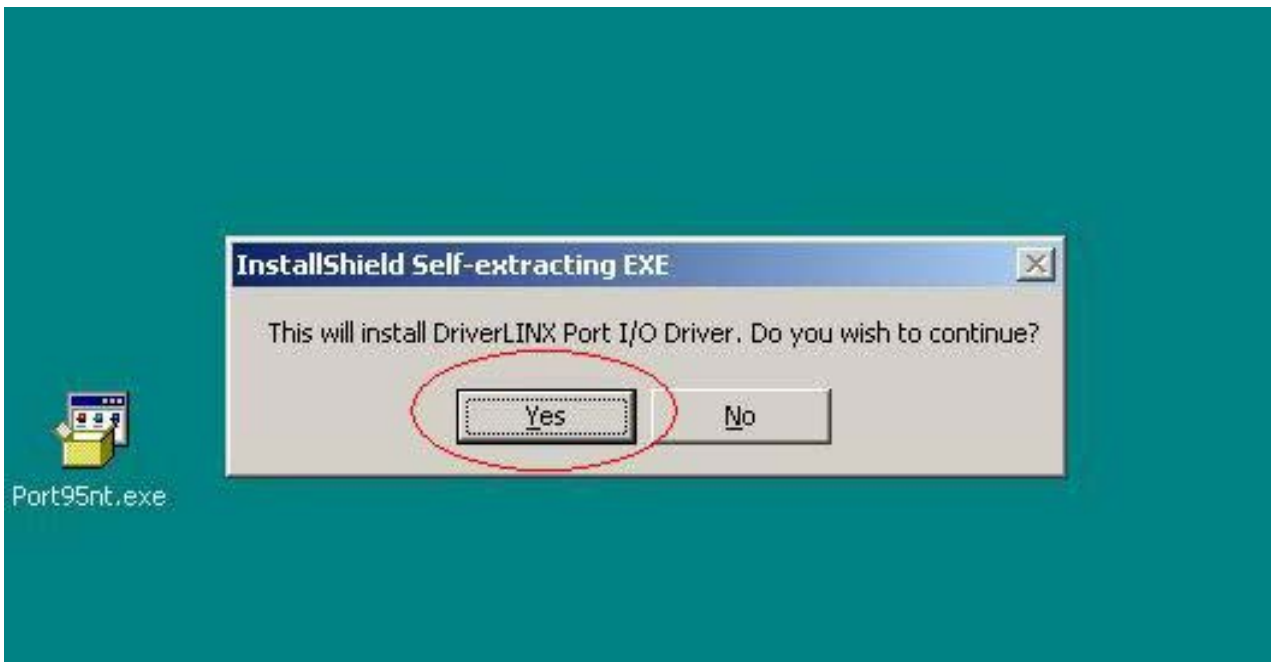

Fig 0.1
2. Double-click the "PORT95NT.exe" icon in Windows and install the program; see Fig 0.1.